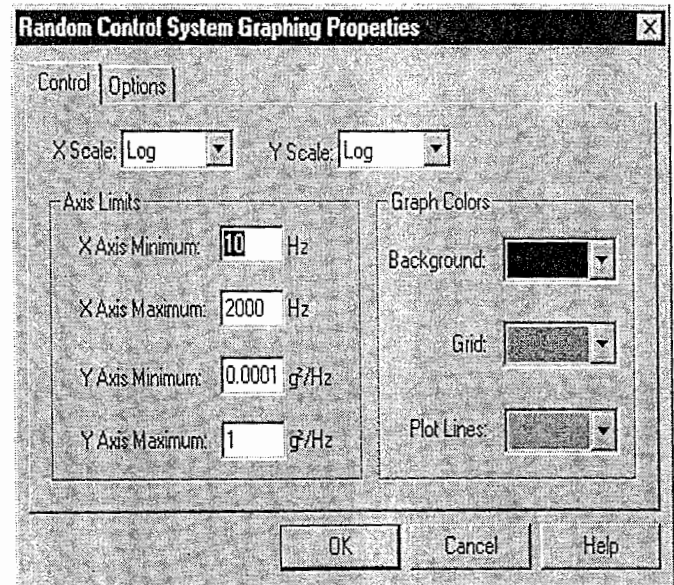

Figure 2-6. Example Graphing Properties Window for a Graph.
- b. Select Properties to display the graph's properties. See Figure 2-6.